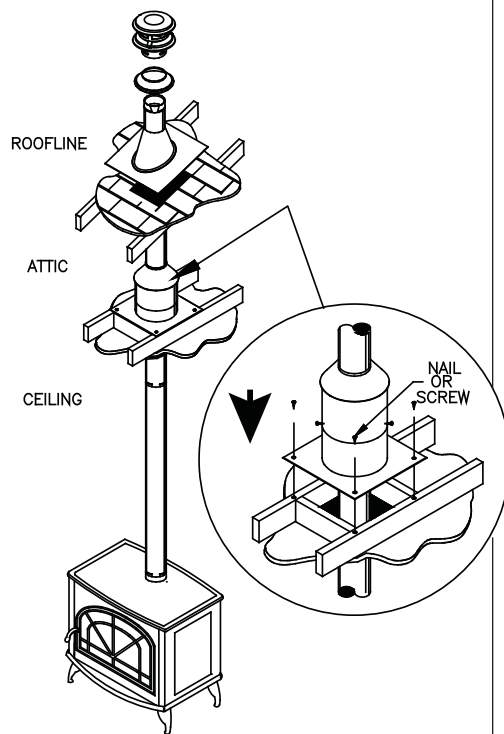

Figure 6
Secure Pellet does not require additional sealant to be used at pipe joints, but in certain circumstances sealant may be used if desired. Seal the inner liner overlap at the male end of pipe for best results (*Figure 6*)
G. When the Vent enters the attic, install an Attic Insulation Shield around the vent (**Figure 6**). This will prevent insulation and debris from collecting near the vent pipe. Use (4) nails or wood screws to secure the base of the Attic Insulation Shield to the framed opening. Adjust the height of the Attic Insulation Shield by sliding the top cylindrical shield over the one from the base. Ensure that the top of the Shield is above the level of building insulation. Secure the Shield in place with at least two (2) sheet metal screws through the side of the cylindrical shield. Attach collar around pipe, then lower to the top of the Attic Insulation shield.
H. After lining up for the hole in roof, using the same method as 2. (B), cut either a round